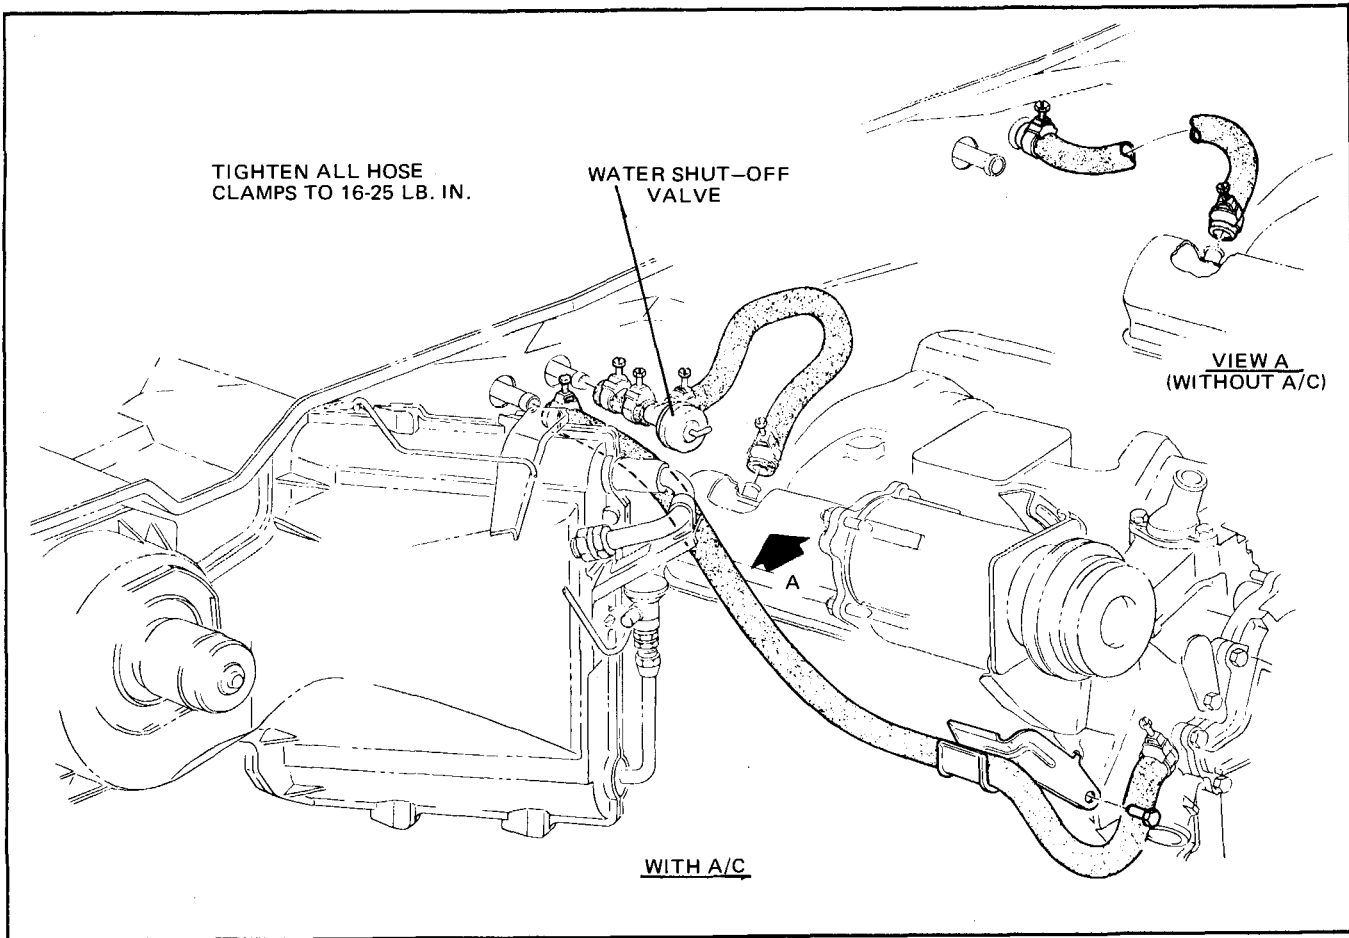

Fig. 1-27 Heater Hose Routing - B Series
3. When replacing hose refer to Figs. 1-27 (B Series), 1-28 (A and G Series), 1-29 (F Series) and 1-30 and 1-30A (X Series) for proper hose routing and connections. Attach hoses, tighten clamps and refill radiator.